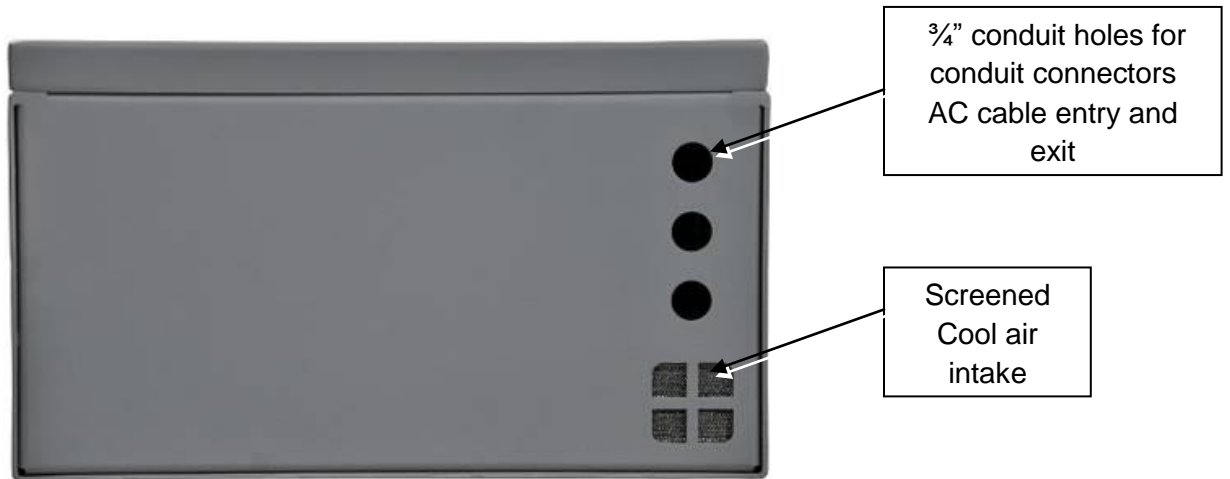

Figure 13: Cable Entry and Exit Ports in Bottom of Cabinet
4.12 If bringing in cable through a conduit up the pole, make sure that the trade size of the conduit is $\frac{3}{4}$ " and not larger. Larger conduit will not fit through the $\frac{3}{4}$ " conduit holes for cable entry which are on the bottom of the unit, see Figure 13. The cool air intake vent is also located on the bottom.